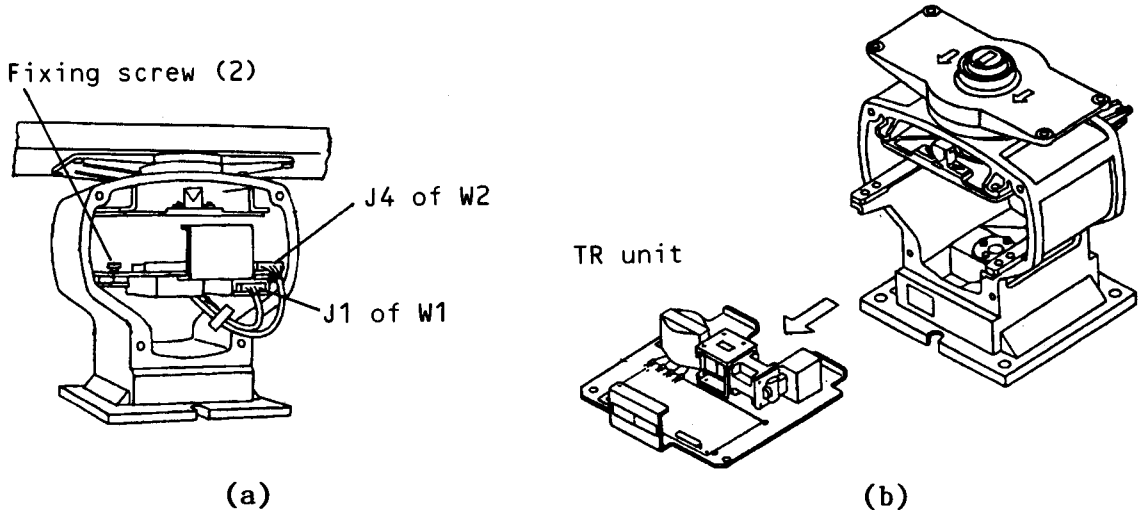

Fig. 5.1.1 Dismounting Transmitter/Receiver (TR) Unit
5.1.1 Dismounting transmitter/receiver (TR) unit
- The TR unit is mounted rear inside the antenna unit. At first disconnect connectors J1 of cable W1, and J4 of W2 shown in Fig. 5.1.1 (a).
- Take out the unit as shown in Fig. 5.1.1 (b).